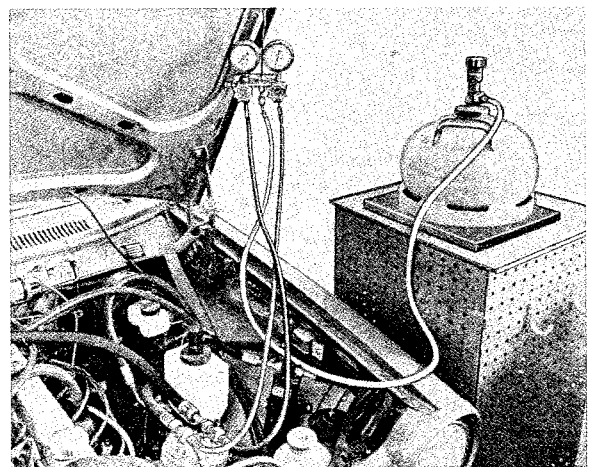

Fig. 8-96. Connecting refrigerant can
1. Disconnect the white hose from the vacuum pump and connect it to the refrigerant can (Fig. 8-96). NOTE: Under no circumstances whatsoever may the refrigerant can be placed on its side or inverted. It must always be upright while the system is being filled, otherwise fluid will be sucked into the compressor and damage it.